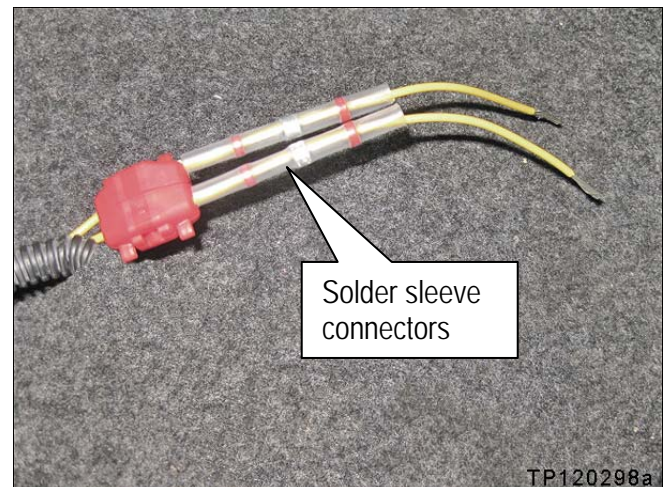

Figure CR13
- Slide solder sleeve connector onto the SAB harness wires as shown in Figure CR13.